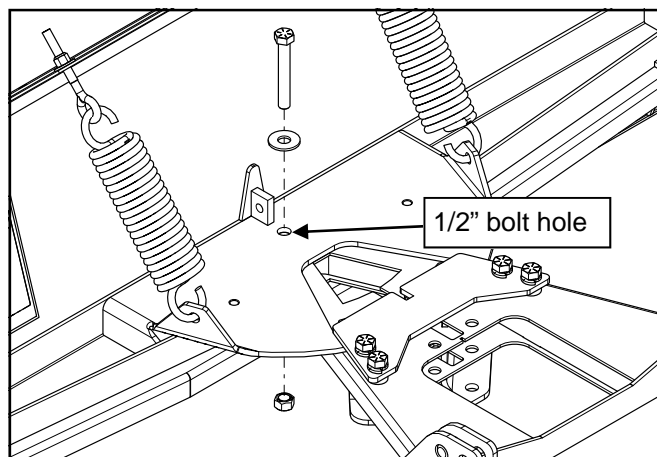

Fig. 3.2 (A-Frame and Trip Frame)
3.2 Slide the A-Frame into the trip frame pocket, aligning the 1/2" bolt holes on both assemblies. See fig. 3.2. Install the 1/2-20 x 3.5" hex head bolt with a 1/2" washer under the head of the bolt. Then thread on the 1/2-20 conical locking nut. Tighten until all slack is removed from the bolt while the A-frame is allowed to rotate freely in the trip frame pocket.